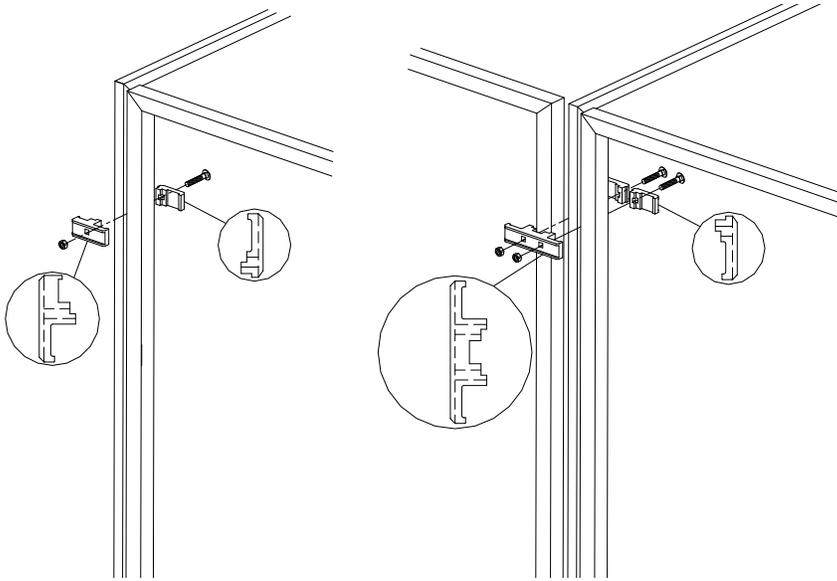
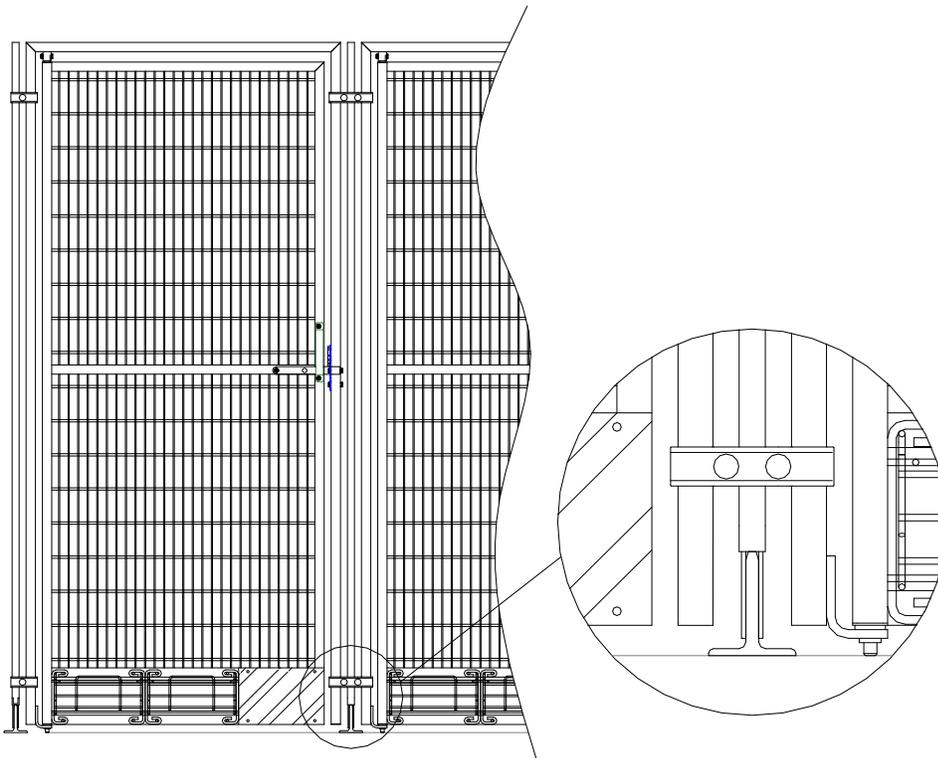

Figure 14
Figure 15
1. Attach the gate/stall front on the front of each run between the division panels with two clamps on each side using the 5/16" x 1-3/4" bolts and nuts provided as shown in Figure 14. Note: It takes two halves to make up one clamp. Attach gates/stall fronts to outside division panels using "square - 1" panel clamps". All other gates/stall fronts will use "square - 1" triple clamps". **To help insure the safety of the animals the round head of the bolt should be assembled toward the inside of the run.** Note: The triple clamps attach two gates/stall fronts together. Therefore you will have to hang two gates/stall fronts at the same time (see Figure 15).